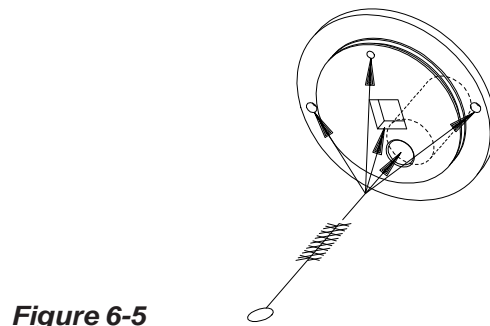

Figure 6-5
- a. The dispense door piston opening, breaker bar bushing cavity, air bleed hole, dispense outlet valve opening, and the door mounting holes, as shown in figure 6-5.